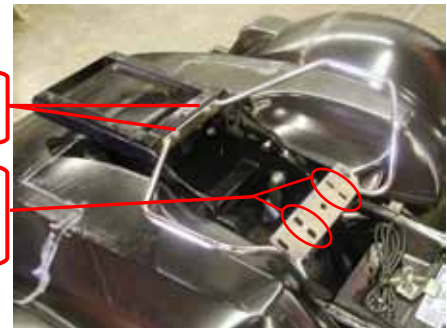

Figure 56
- a. Install seat rail to tour box frame and Seat Rail Mount as shown. Figure 56